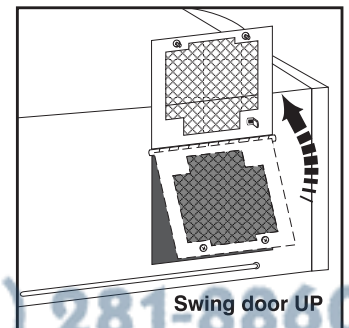

Figure 4.3. Open the lamp door
- See Figure 4.3. Loosen the 2 screws fastening the lamp door shut.